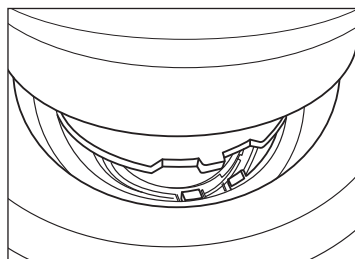

Figure 11
7. Attach the bean hopper by aligning the notches on the base of the hopper with the guides on the inside of the collar. Position until the hopper sits flat. See figure 11